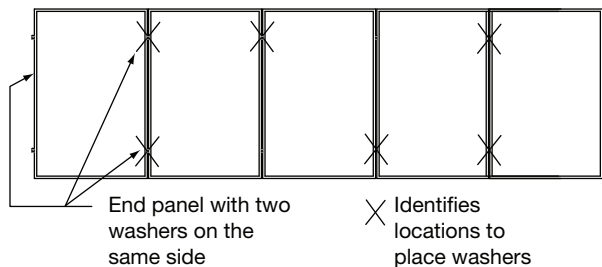

FIGURE 1
1. Install a minimum of two grounding transition washers for each panel. Washers may be at opposite corners. For end panels place two washers on the same side, see figure 1.